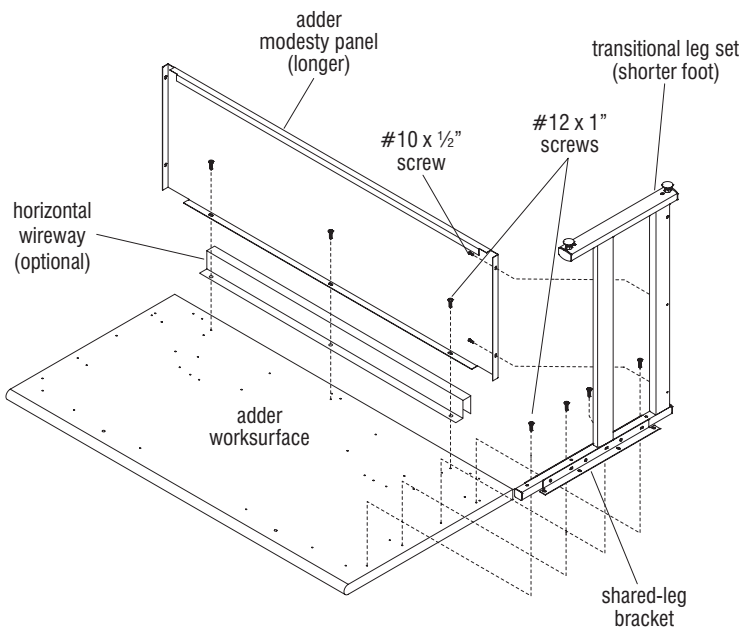

Figure 2 - Adder Worksurface
6. To avoid scratching top, carefully lay adder worksurface upside down on a soft, protective surface. Install the transitional leg set to the underside of the worksurface at pre-drilled holes using four #12 x 1" screws. The transitional leg set will be "shared" so should be installed to the mounting holes closest to the edge of the worksurface such that the centerline of the leg is directly over the end of the table (Figure 2).
7. Position an adder modesty panel over the mounting holes in worksurface, and next to the transitional leg as illustrated. If optional horizontal wireway is to be installed to unit, place the wireway between mounting flange of modesty panel and the worksurface, aligning the mounting holes as illustrated. Secure modesty panel to worksurface with three #12 x 1" screws, and attach one modesty panel end to the transitional leg using two #10 x 1/2" screws (Figure 2).